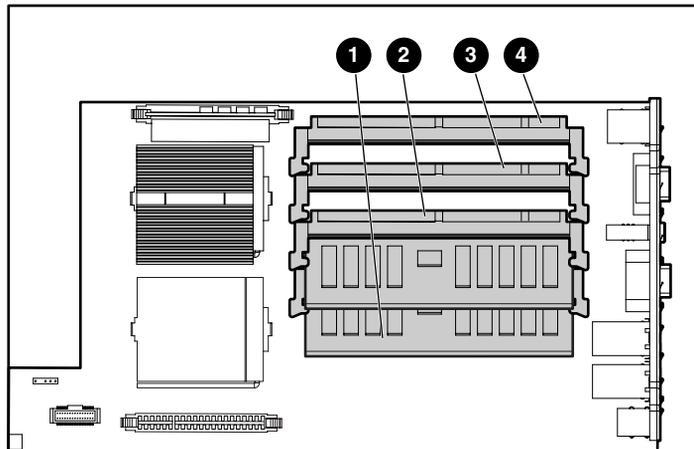

Figure 3-14. Identifying DIMM sockets on the system board
3. Use Figure 3-14 and Table 3-3 to identify the correct DIMM sockets.